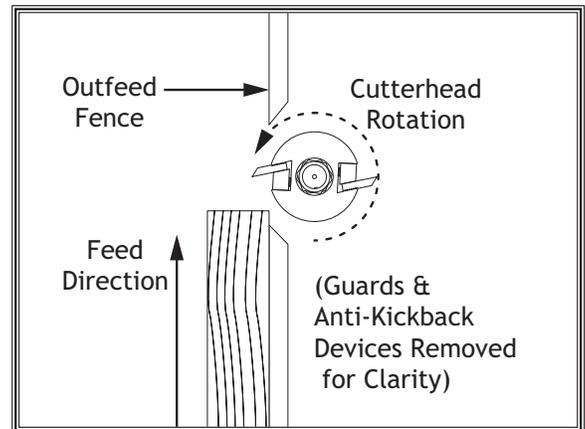

Figure 6. Moulding head set up correctly for straight shaping.
3. Secure moulding head onto spindle, then check that moulding head rotates in desired direction and knives are oriented correctly, as shown in **Figure 6**.
5. Position outfeed fence (see **Figure 6**) for depth of cut.